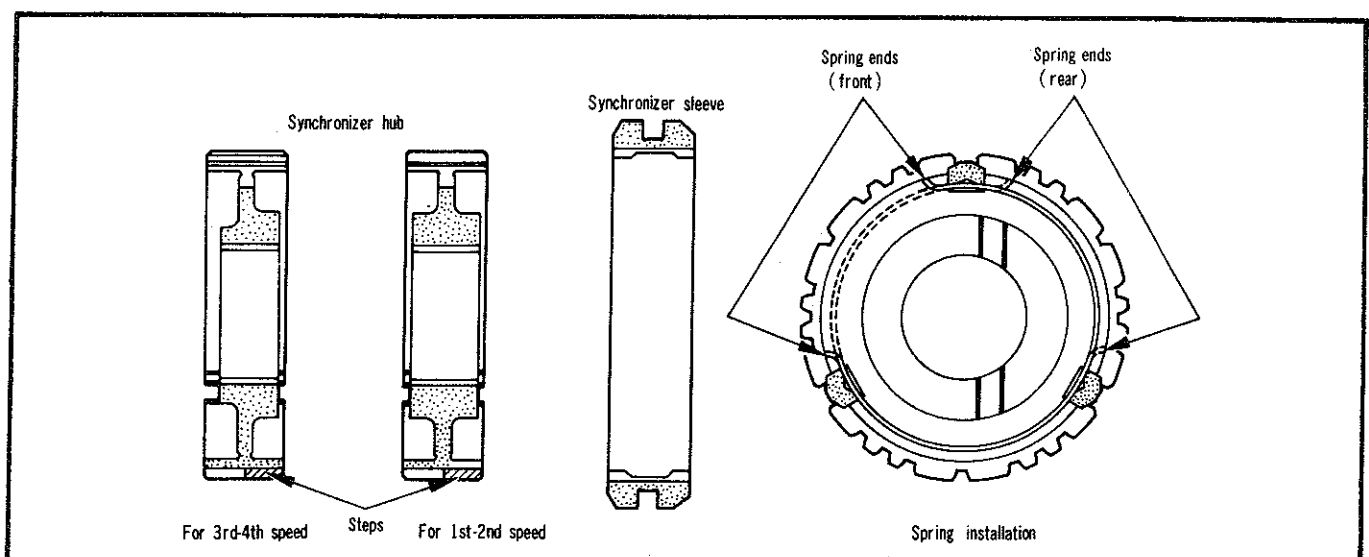

Fig. 11—Synchronizer and spring location
(1) Using a suitable tool install the input shaft bearing and then install a suitable thickness snap ring to retain the bearing end play within specifications.
(2) Assemble the synchronizer sleeves, hubs, shift plates and springs in the order they were removed. Position the open ends of the synchronizer springs away from each other i.e. so that the gaps are not in the same hub segment, Fig. 11.
(3) Install the needle bearing and third speed gear onto the front of the main shaft.
(4) Install the synchronizer ring and third-fourth speed synchronizer assembly onto the main shaft and install a suitable thickness snap ring to retain the end play within specification.
(5) Install the needle bearing and second speed gear onto the rear of the main shaft.